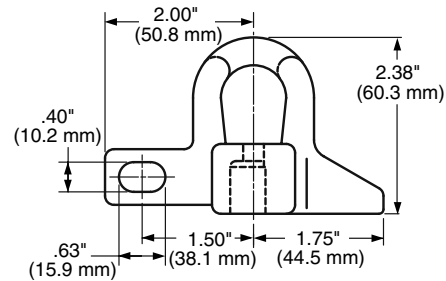

Figure 6. Padlockable Handle.
3. Optional padlock handle is available. (See Table 6, Figure 6.)